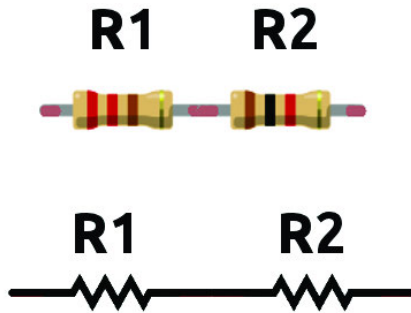

Figure 15-11 The values of resistances linked in series must be added to one another
In Figure 15-11, you see two resistors, one with red (2), red (2), and brown (one 0), giving us 220 ohms; and the other with brown (1), black (0), and red (two 0s), giving us 1,000 ohms or 1 kil-ohm (abbreviated 1K). Together they total 1,220 ohms.